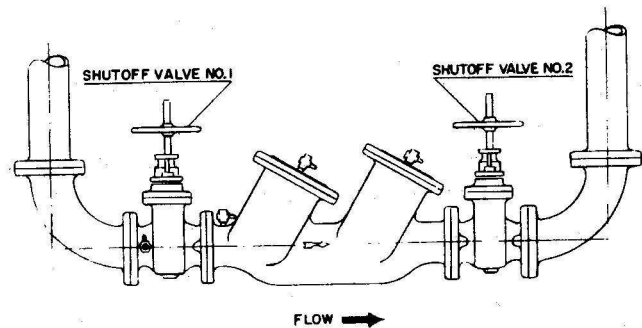

FIGURE 6
B. COLD CLIMATE INSTALLATIONS (Fig. 6)